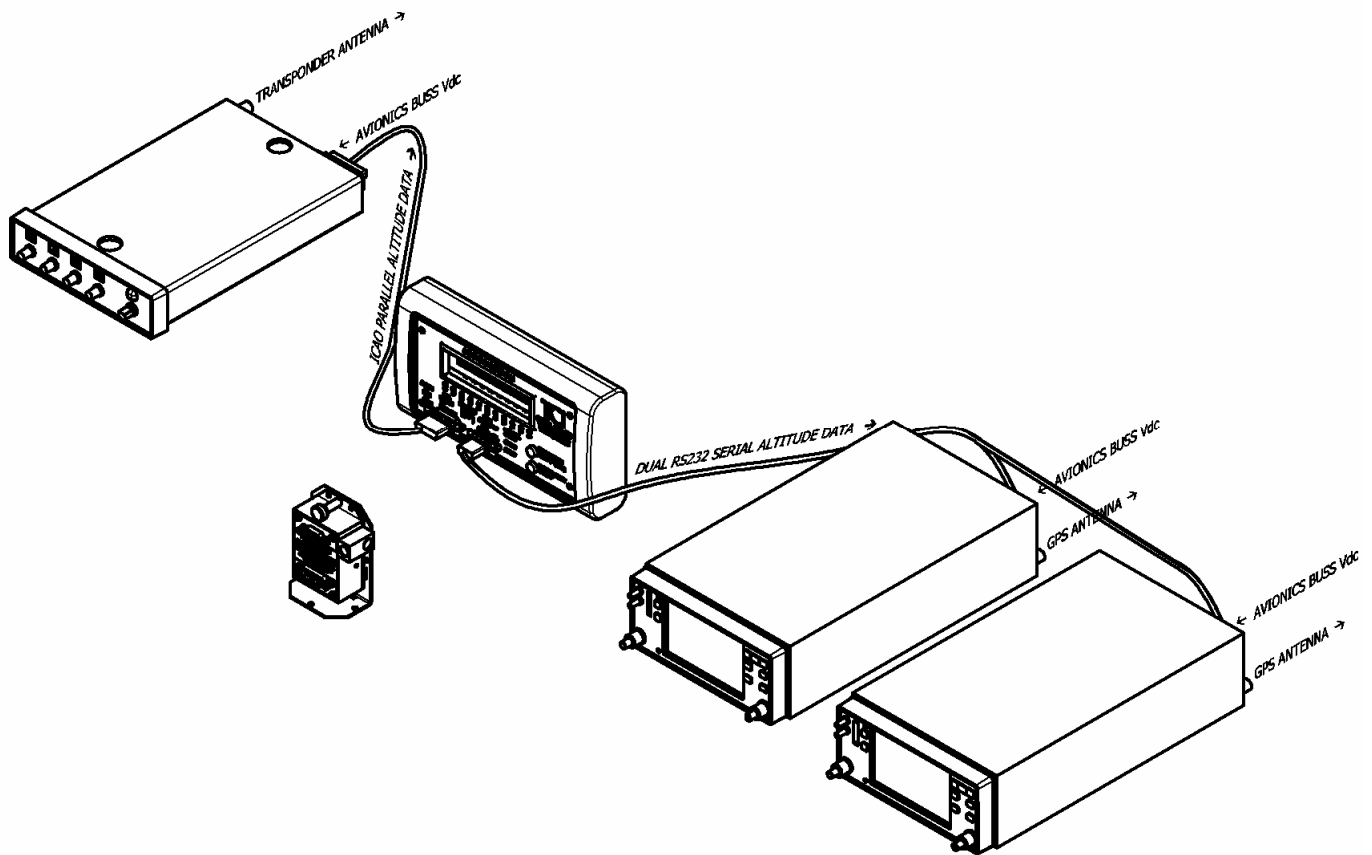

Figure 3
Step 1: With the **ADS-100** and avionics buss system power **off**, simply substitute the ADS-100 for the altitude encoder, as shown in **Figure 3**. The altitude data output connector is wired identically to most Trans-Cal altitude reporting devices. The connector pin assignments are found in **Table IX**. Connect an acceptable ramp test set to observe the transponder output as per the manufacturer's instructions. The GPS or other device may or may not display the serial altitude data.